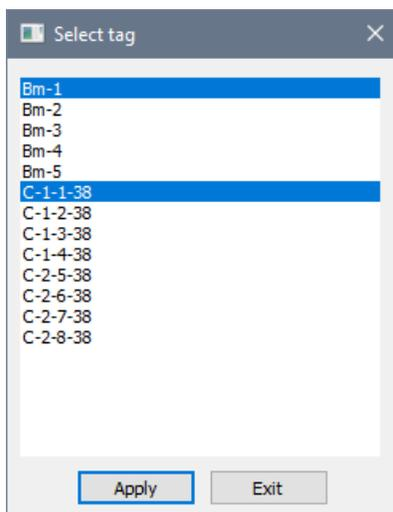

Figure 27.36. **Select tag** dialog box
- in the **Select tag** dialog box (see Fig. 27.36), hold down the **Ctrl** key and select tags of the column and beam for which design procedure was carried out. In this example, it is column C-1-4-38 and beam Bm-1.